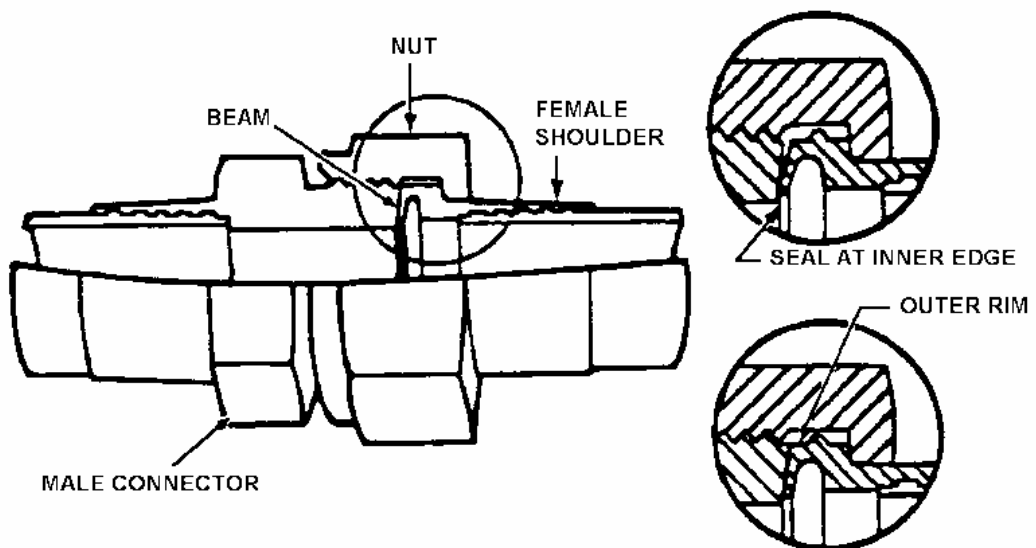
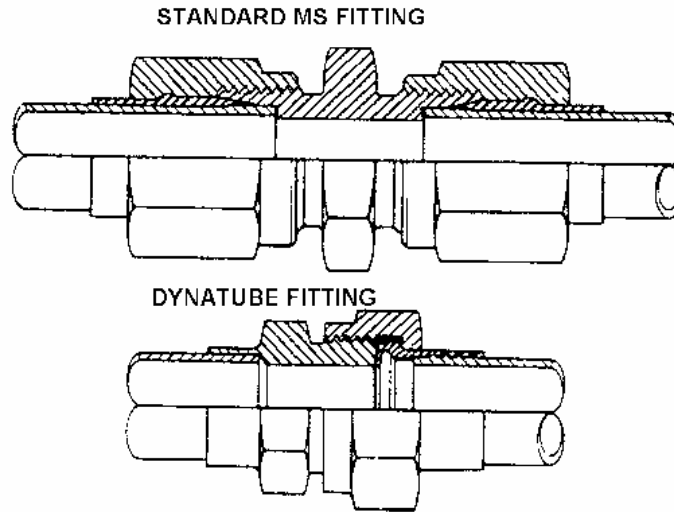

Figure 2. Dynatube Fitting
Figure 3. Dynatube Versus MS Fitting
3. Dynatube fittings consist of a threaded male connector, a female shoulder with a machined beam, and a nut (Figure 2). Compared to the five components in a standard MS fitting, the three components in a Dynatube fitting are smaller, lighter, and have fewer potential leak paths (Figure 3). Dynatube fittings have solid film lubricant on all sliding surfaces which allows the fittings to be assembled without additional lubricant. Figure 4 shows various Dynatube fitting configurations.
5. The dynatube fitting is an all-metallic tube fitting (Figure 2) which incorporates a low angle, integral dynamic diaphragm sealing element (beam). The inner edge of the beam forms the initial seal upon contact with the mating sealing surface. As additional torque is applied, the beam deflects to its full extent, assuming the same angle as the mating surface. Further tightening to a torque within the recommended range completes the assembly, imposing thrust loads through the solid outer rim of the dynamic sealing element.